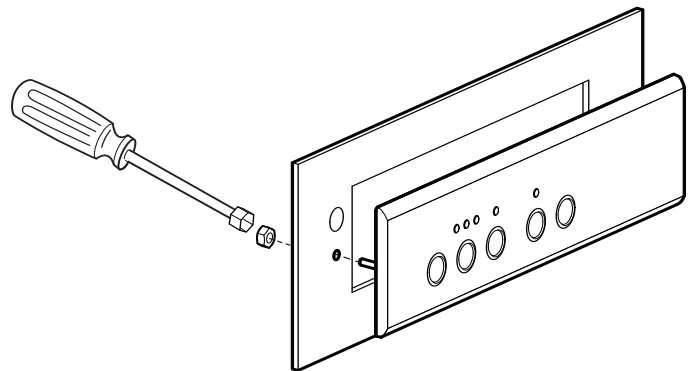

Figure 22: Remote Install
5. Insert remote control into cutout. Secure from behind with two (2) nuts onto the weld studs (*Figure 22*).